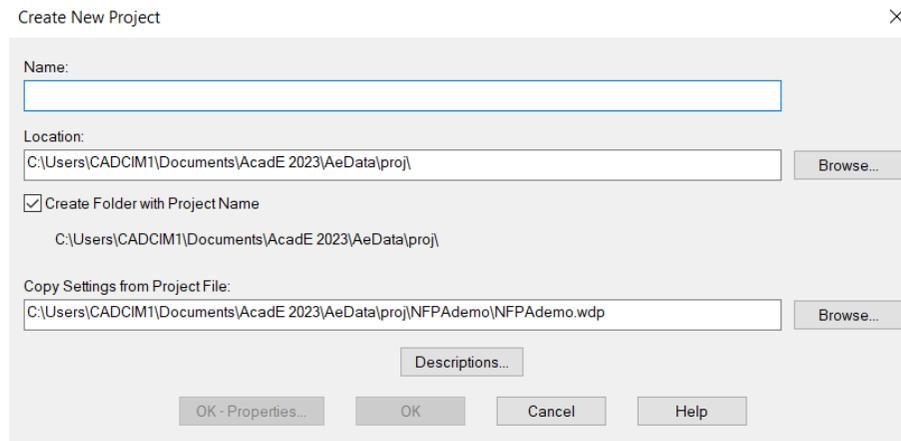

Figure 2-60 The Create New Project dialog box
- In the **PROJECT MANAGER**, make sure the **Projects** tab is chosen. Next, choose the **New Project** button; the **Create New Project** dialog box is displayed, as shown in Figure 2-60.